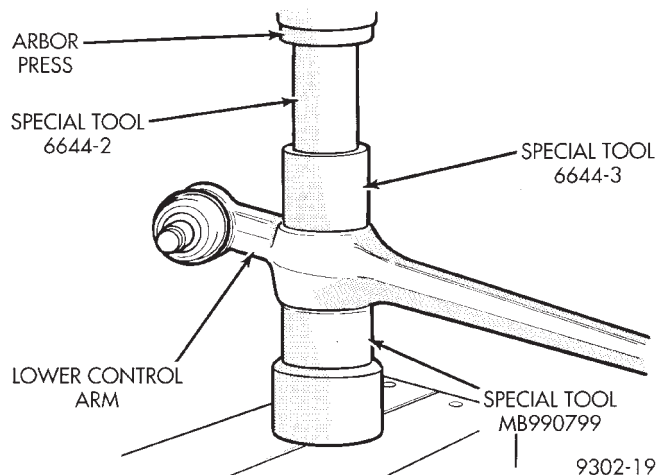

**Fig. 76 Installing Tension Strut Bushing Into Lower Control Arm**
(1) Thoroughly lubricate the replacement tension strut bushing, lower control arm and Installer, Special Tool 6644-3 using Mopar® Rubber Bushing Installation Lube, or an equivalent.
(2) By hand, install tension strut bushing into large end of Installer, Special Tool 6644-3. Press bushing into installer as far as it will go by hand.
(3) Position lower control arm in arbor press, so tension strut hole in lower control arm is centered on Receiver, Special Tool MB-990799 (Fig. 76). Position Installer, Special Tool 6644-3 with previously installed bushing, inside of tension strut bushing hole in lower control arm (Fig. 76). Position Installer, Special Tool 6644-2 on top of tension strut bushing (Fig. 76). Using the arbor press, press the tension strut bushing into the lower control arm. As the bushing is being pressed into the control arm a pop will be heard. When the pop is heard Installer, Special Tool 6644-3 will slightly move up off the control arm. At this time remove the control arm assembly from the arbor press and pull Special Tool 6644-3 off the tension strut bushing in the control arm. Tension strut bushing is now installed.